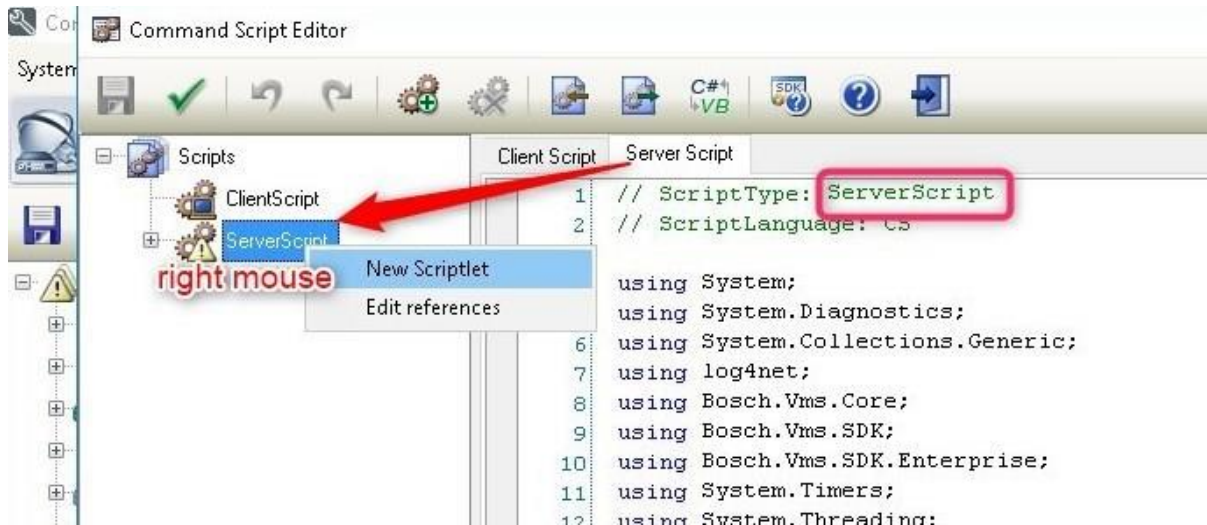

Fig 2
1. Next step is to add a new ServerScript C# (or VB) by right mouse clicking on ServerScript in the left panel and choose New Scriptlet (Fig. 2.) This automatically creates in the right panel an empty script template